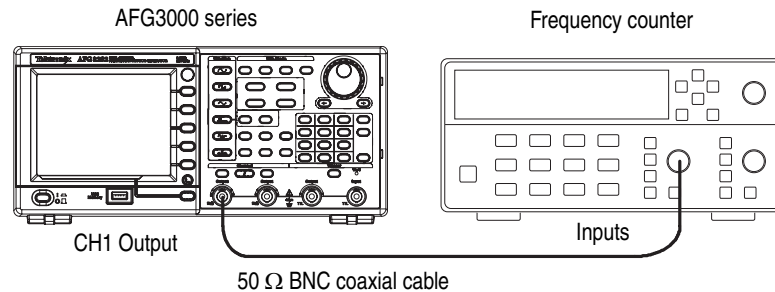

Figure 5-1: Reference Clock adjustment
1. Connect the arbitrary/function generator to the frequency counter as shown in Figure 5-1.